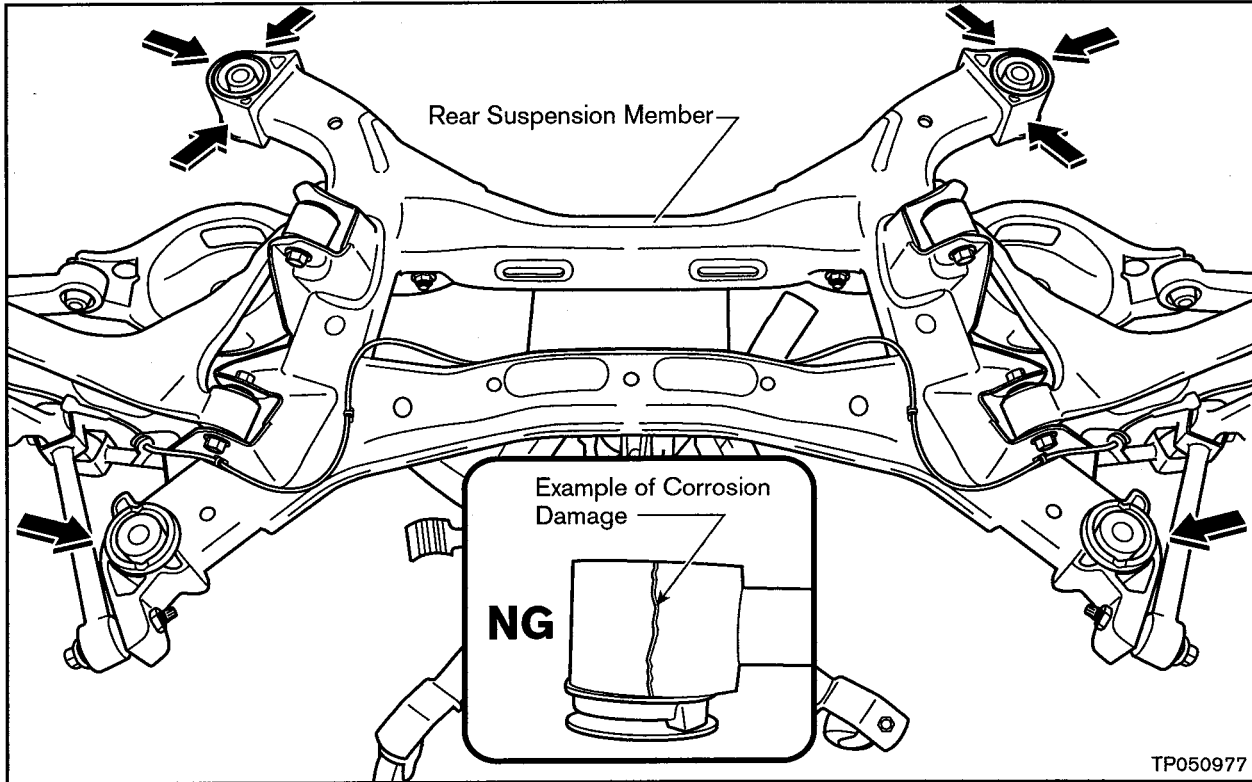

Figure C3
1. Inspect the rear suspension member at the locations shown in Figure C3 for corrosion damage.